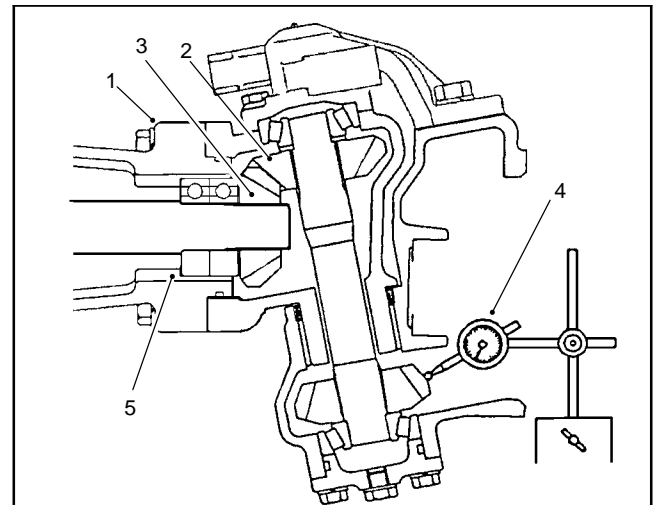

Figure 25
7. Temporarily install the bevel gear case/axle case assembly on the axle support. Position a dial indicator at the tooth center. Prevent the axle from turning and measure the upper bevel gear to differential shaft gear backlash (Fig. 25).